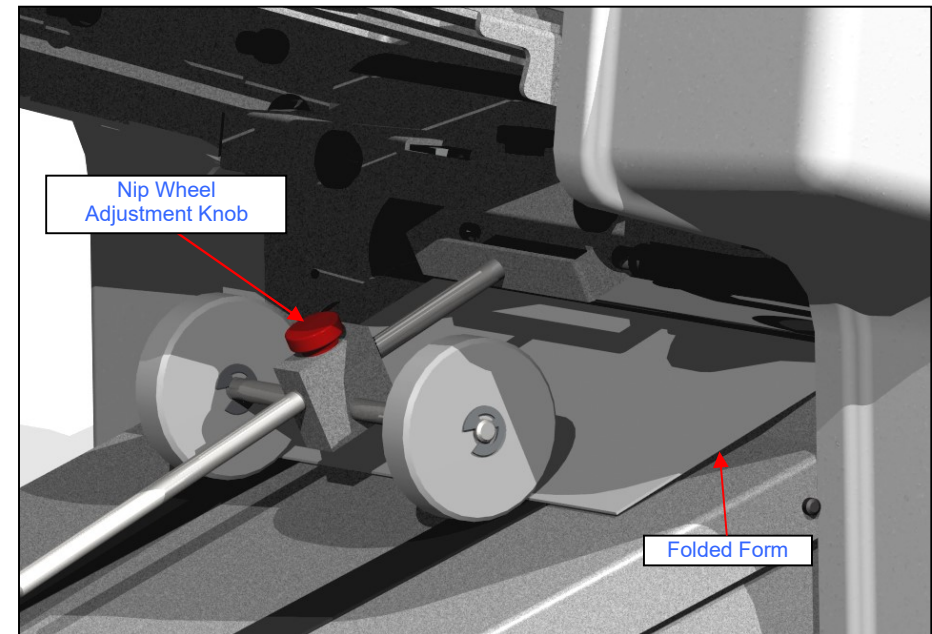

Figure 11: Nip Wheel Adjustment
3. Line up the tips on both sides of the paper stop with the appropriate line on the scale so that the appropriate white line on the scale is just visible [see Figure 11].
The placement of the **conveyor nip wheel** is important for the proper functioning of the conveyor [see Figure 11]. To set the location: